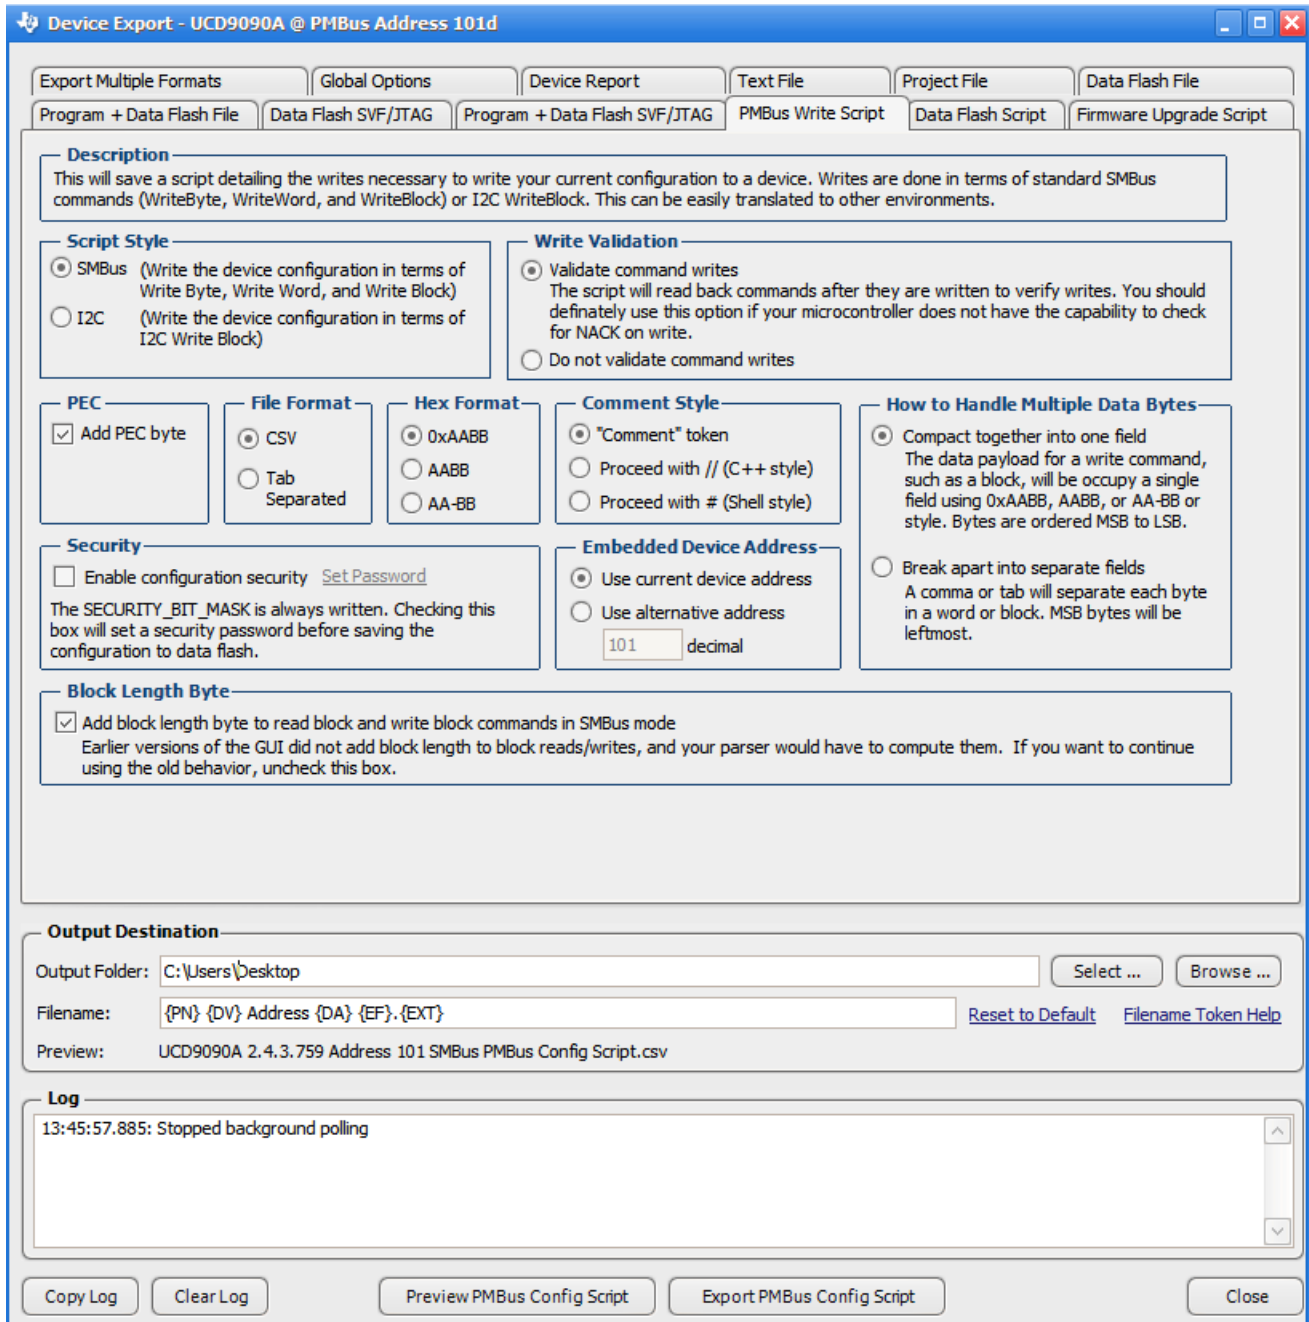

图 7-28. Fusion GUI PMBus Configuration Script Export Tool
2. The *Fusion GUI* (Figure 7-28) can create a PMBus or I²C command script file that can be used by the I²C master to configure the device. This method may cause unexpected behaviors on GPIO pins which can disable rails that provide power to device. It is not recommended for production programming.